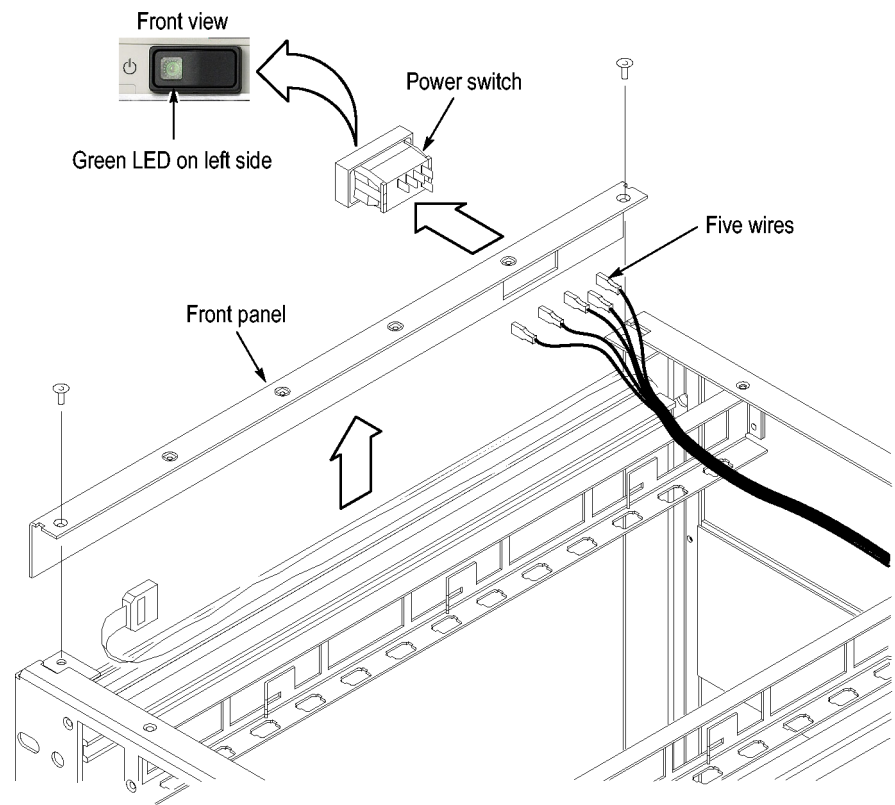

Figure 10: Removing the instrument front panel
6. Note the orientation of the power switch. The green LED is toward the front-left side. (See Figure 10.) You will remove the switch from the existing front panel and reinstall it in the new front panel.